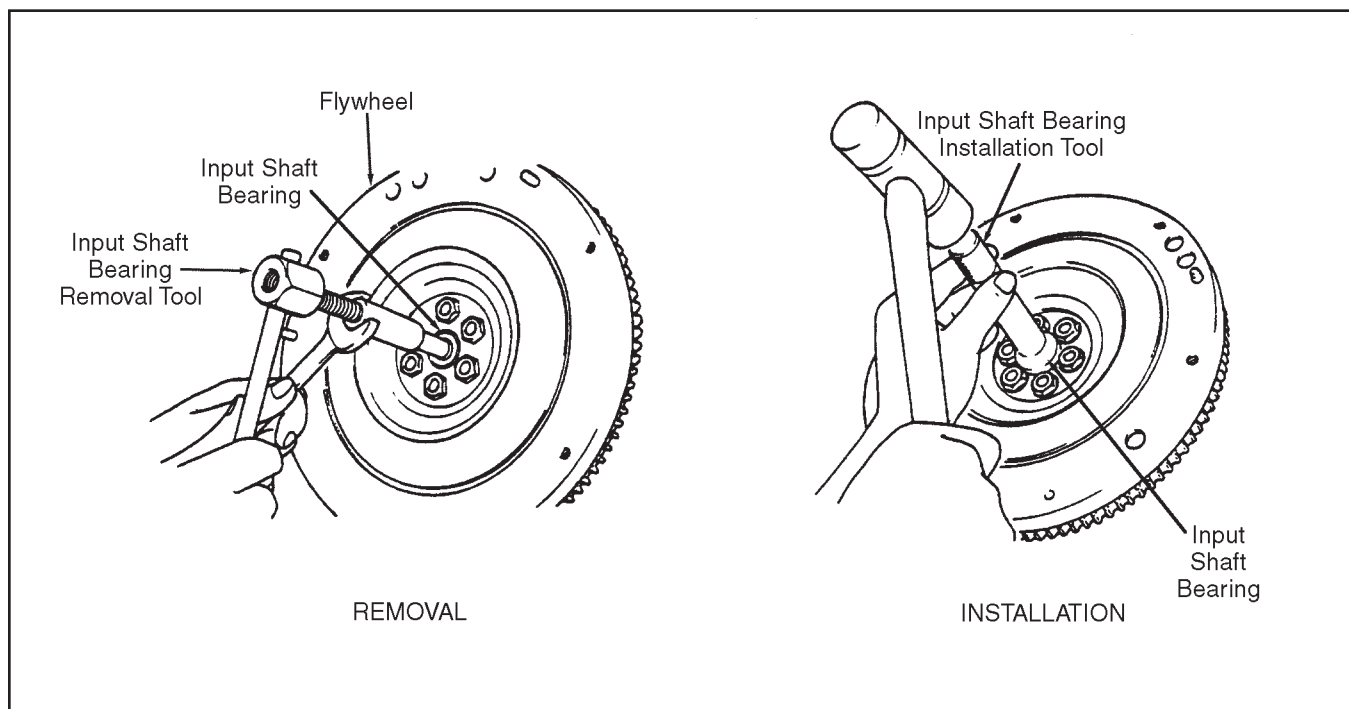

Figure 4H-1. Input Shaft Bearing Replacement
3. Install a new bearing as shown in Figure 4H-1.